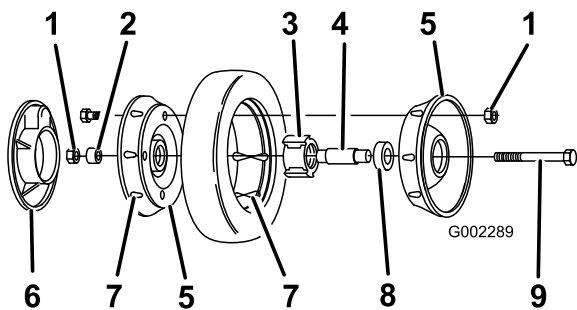

Figure 29
3. Remove the bolt, the wheel spacer, and the locknut mounting the wheel to the pivot arm (Figure 29).
4. Separate the wheel halves from the tire by removing 4 bolts and 4 locknuts (Figure 29).
Note: If you remove the bearings from the bearing/hub assembly, remove them by pressing on the bearing spacer (Figure 29).
1. Position the tire onto one wheel half, aligning the lugs on each (Figure 29).
2. Place the bearing/hub assembly into the center hole of the wheel half. Ensure that the legs of the hub are positioned over the flange of the hole (Figure 29).
3. Place the other wheel half onto the bearing/hub assembly, aligning the wheel and the tire lugs and the mounting holes (Figure 29).
4. Using 2 fully threaded screws or bolts (1/4-20 x 1.50 inch) and non-locking nuts, loosely secure the wheel halves together. Mount the screws or bolts in the opposing holes (Figure 29).
5. Check the alignment of all parts and tighten the screws, alternating from side to side for a uniform fit, until the wheel halves are drawn together (Figure 29).
6. Install the 2 bolts and 2 locknuts previously removed in the remaining holes in the wheel halves and tighten. Remove the 2 long screws or bolts and replace them with 2 bolts and 2 locknuts (Figure 29).
7. Install the wheel to the pivot arm with the bolts, a spacer, and a locknut. Ensure that the spacer is positioned between the wheel hub and the pivot arm (Figure 29).